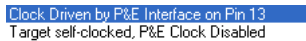

Figure 7-10: HC08 Device Clock Selection Box
3. The device clock menu allows two options. See **Figure 7-10**.